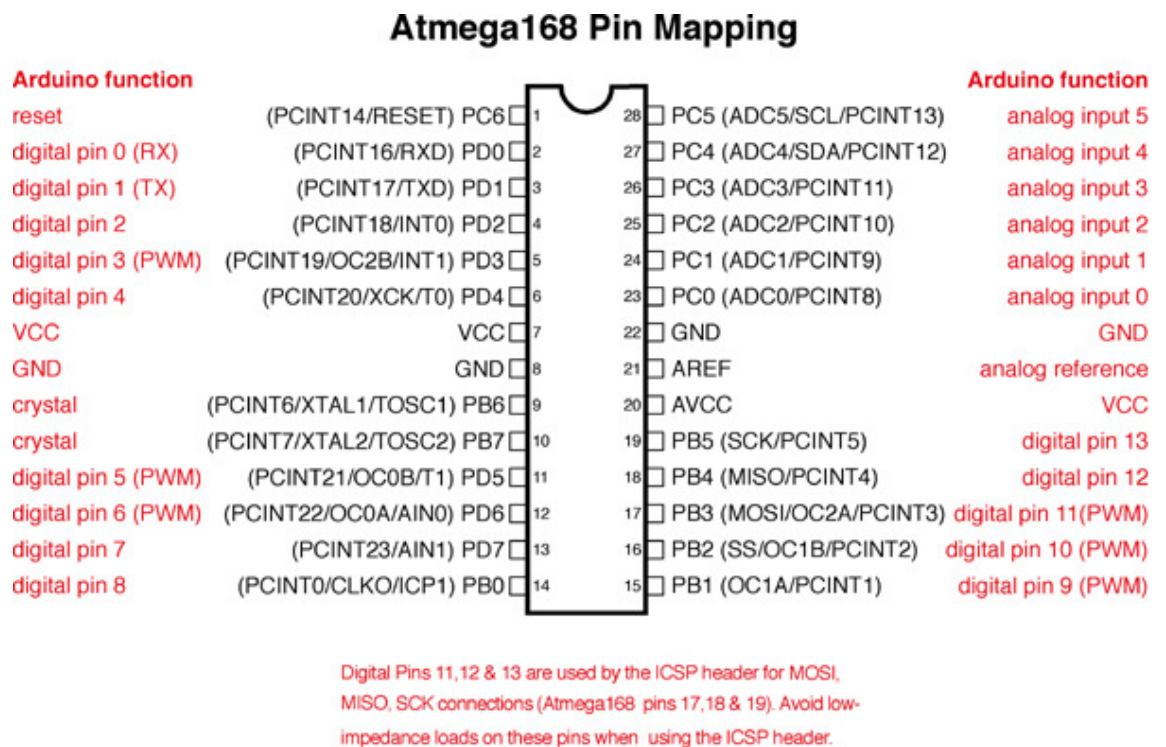

Figure 7.2.0.2.1:
7.2.0.2. Complete Table 7.2.0.2.1 for all the digital pins using Fig. 7.2.0.2.1.